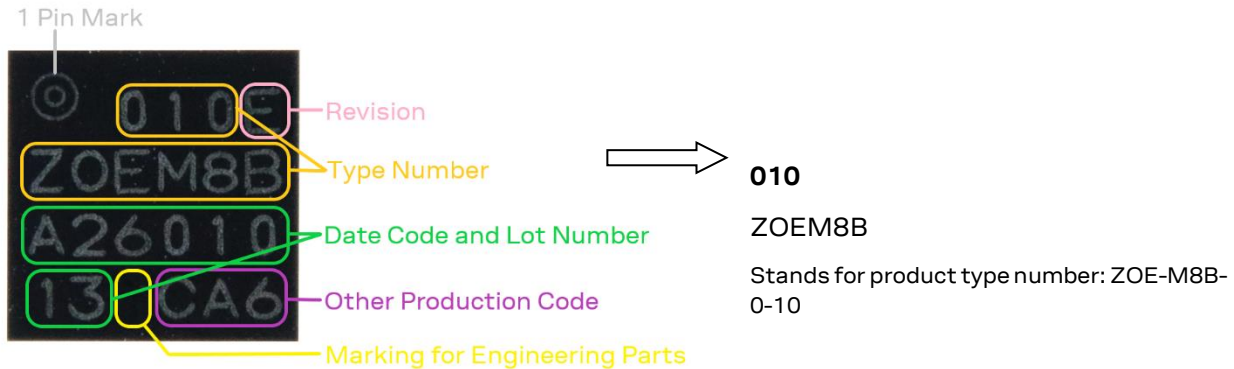

Figure 6: Description of ZOE-M8B product label
The labeling of u-blox M8 GNSS SiP includes important product information. The location of the ZOE-M8B product type number is shown in Figure 6.
-  The pin 1 marking shown in Figure 6 has changed. The change is effective from production date code and lot number **C0201XXX** onward.